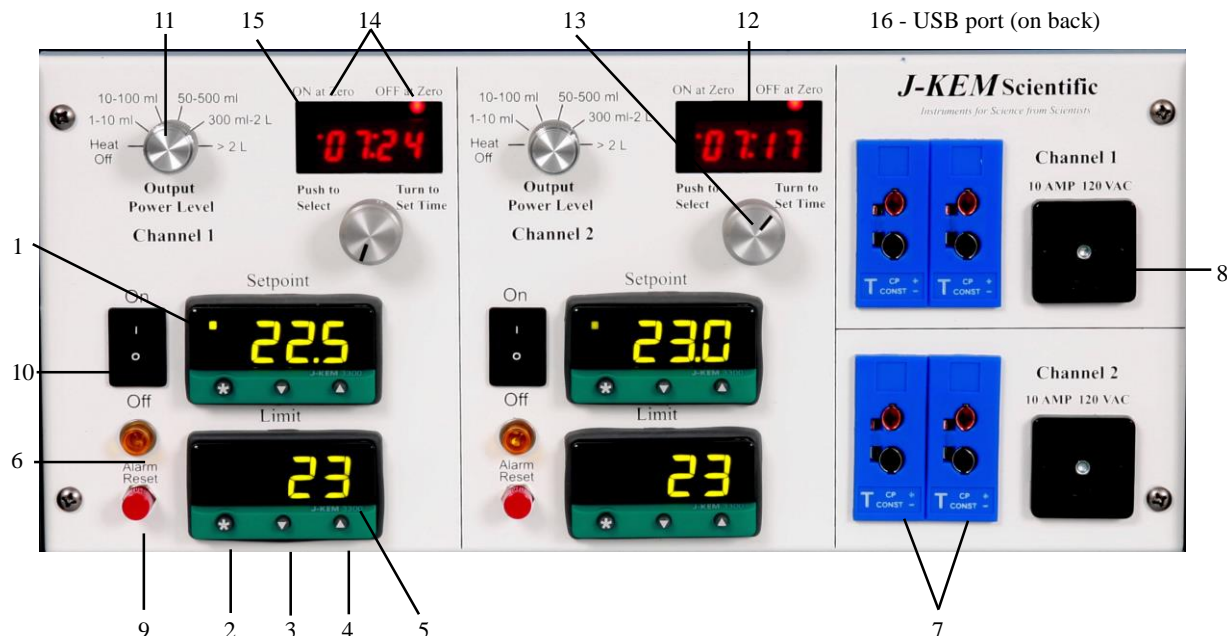

Figure 1
3.4 Temperature Sensor Input. Each controller is fitted with a specific *type* of temperature sensor input and can only be used with a temperature sensor of the same type (thermocouple or RTD). For the correct temperature to be displayed, the thermocouple type must match the receptacle type on the front of the controller (Figure 1; #7). All thermocouples are color coded to show their type (Blue = type T; Yellow = type K; Black = type J). The color of the thermocouple plug must match the color of the receptacle on the front of the controller.